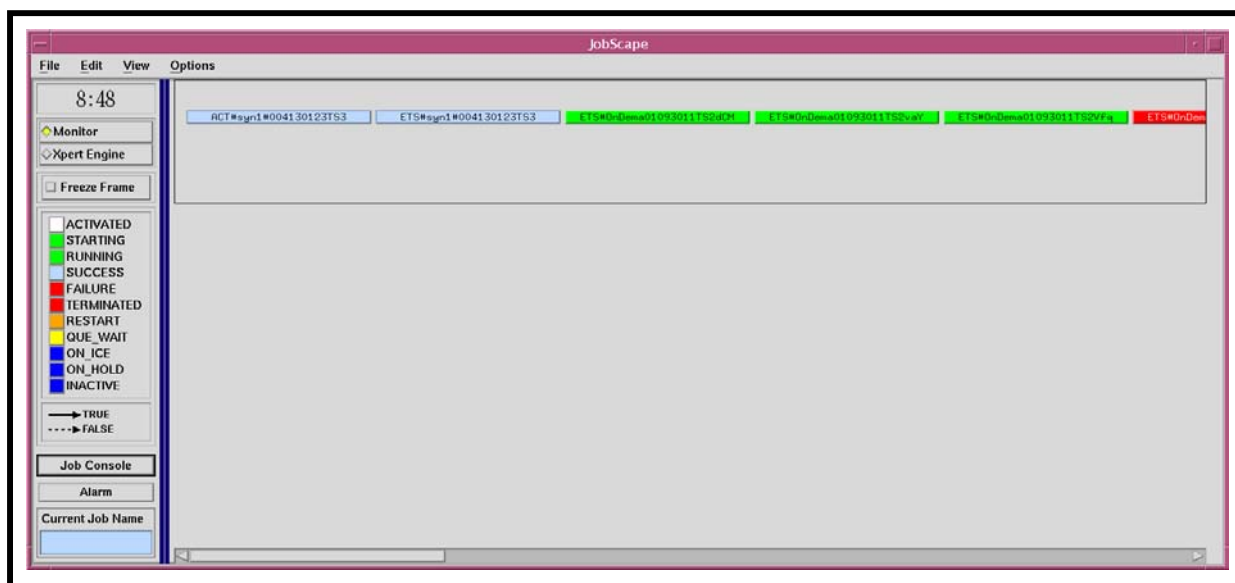

Figure 70. JobScape GUI “One Level” View
- Selecting **1** provides a display of the box level only, as shown in Figure 70.